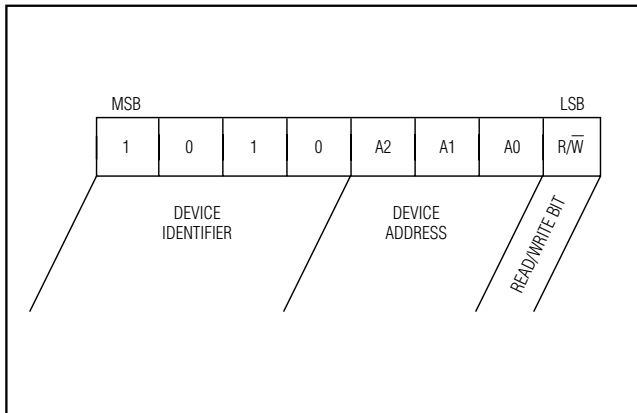

Figure 4. Slave Address
- 3) Slave Address:** This is the first byte received following the start condition from the master device. The slave address consists of a 4-bit control code. For the DS3930, this is set as 1010 binary for read/write operations. The next bits of the slave address are the device address (A2–A0). The last bit of the slave address (R/W) defines the operation to be performed. When set to a '1,' a read operation is selected, and when set to a '0,' a write operation is selected (see Figure 4).